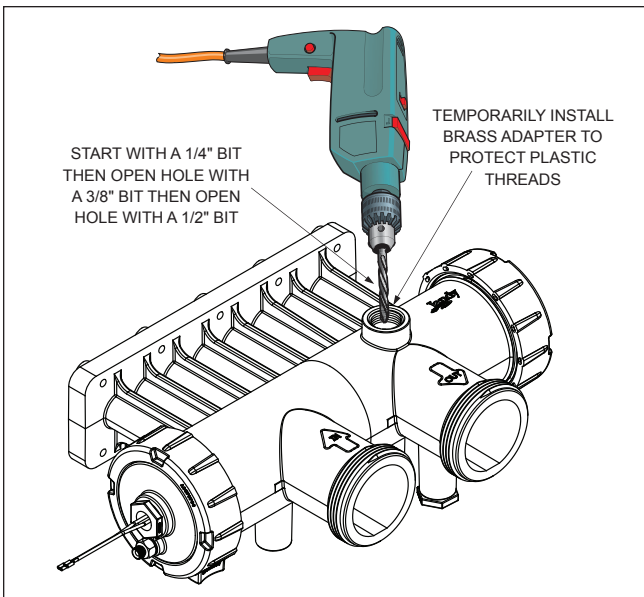

Figure 13. Drill Hole for Pressure Relief Valve
2. Using the countersink in the center of the blind hole as a guide, drill a 1/4 inch hole through the plastic (see Figure 13).